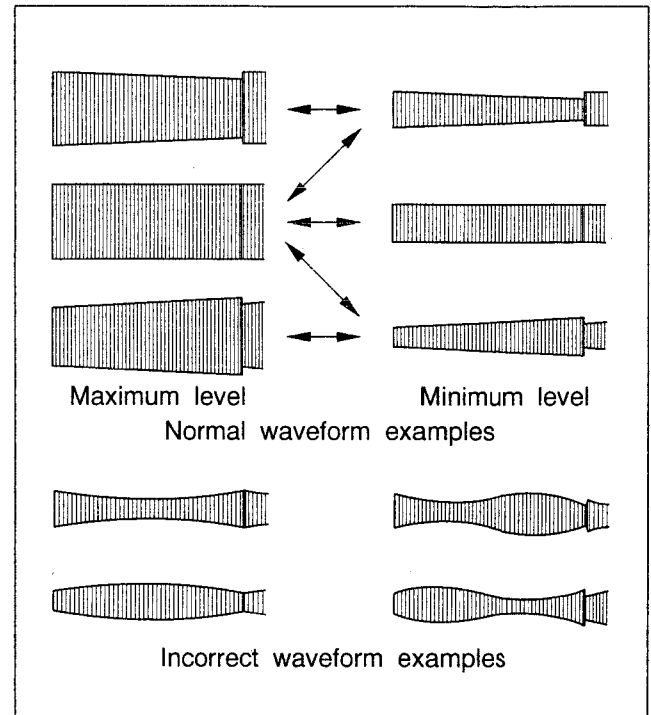

Fig. 2-8-1
- (1) Connect an oscilloscope to TP106 (PB FM) on the MAIN board assembly, and connect the external sync to TP111 (D.FF) on the MAIN board assembly.
- (2) Play the MHPE alignment tape and observe the FM waveform.
- (3) Press the two channel buttons (+, -) on the set simultaneously during playback to initiate manual tracking. (The tracking is set to the centre position at this time.)
- (4) Check that the FM waveform level is not decreased significantly by the tracking operation and that it shows overall parallel, linear variation. Perform the following adjustments if it is deemed necessary. (Fig. 2-8-1)